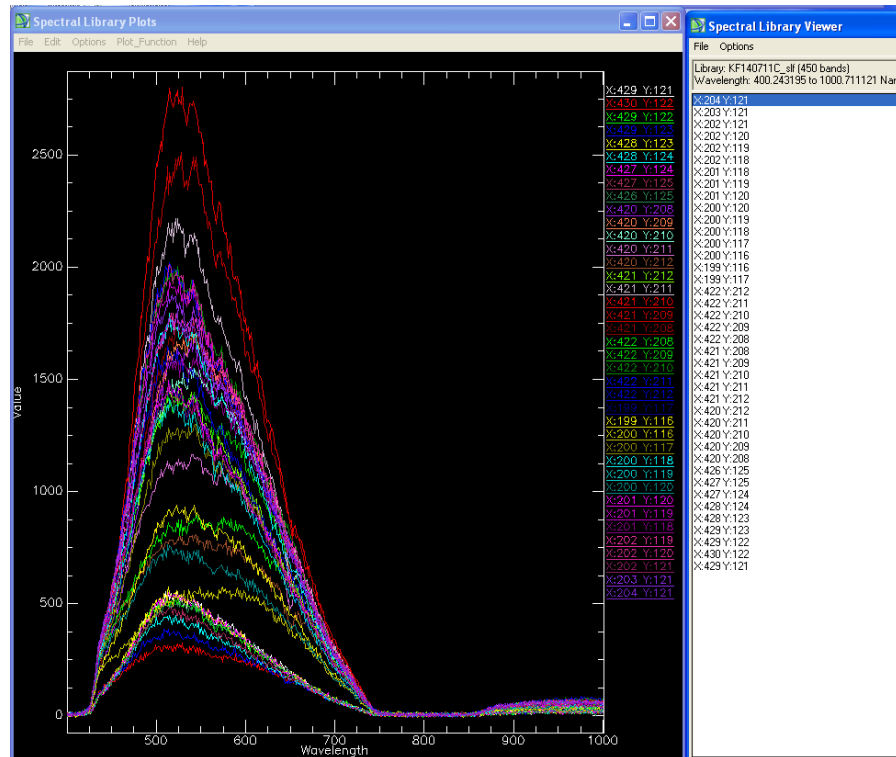

Figure 36. Spectral Library Viewer window (right) used to create the Spectral Library Plot (left)
3. Open the spectral library (see Figure 36)